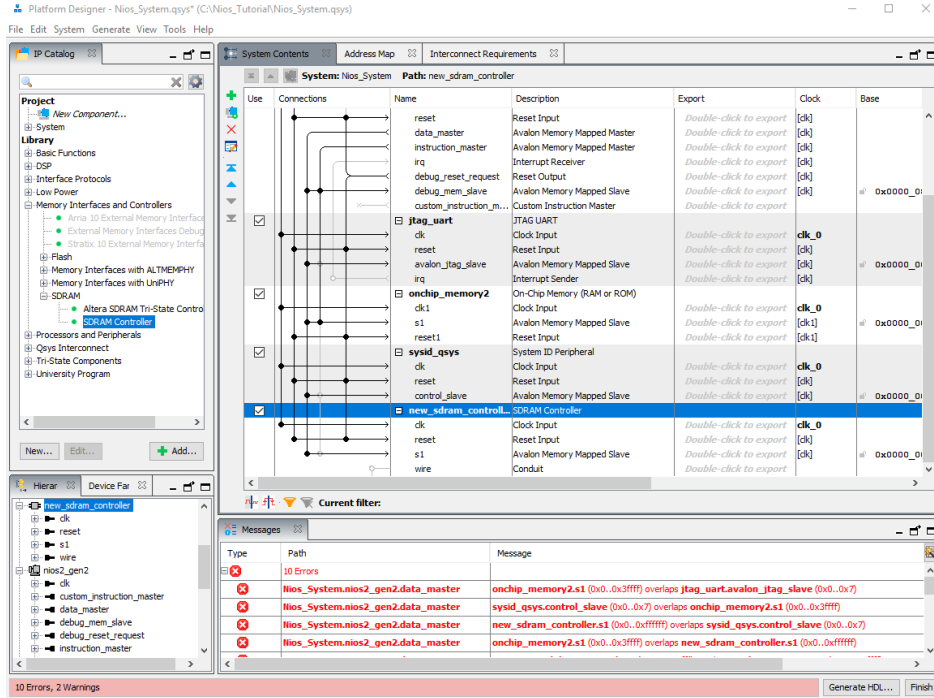

Figure 1-24 Connecting SDRAM
16.) Now we will connect the SDRAM to the system by connecting the clk, reset, and data master wires as shown in Figure 1-24.